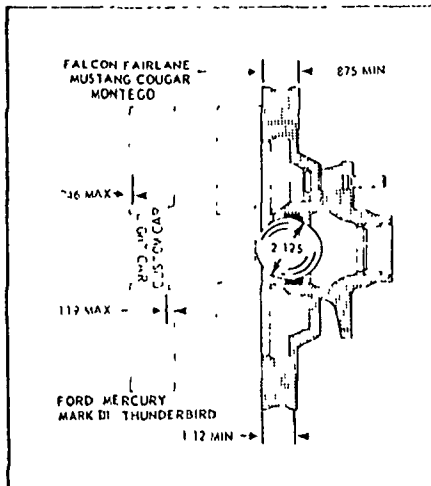

Figure 24- Floating Caliper Rotor Refinishing Limiting Dimensions
Controlled dimension notches are machined in the opposite edges of the gauge bar (Fig. 24) and identified Custom Car (Ford, Mercury, Continental Mark III and Thunderbird) and Light Car (Montego, Fairlane, Falcon, Mustang and Cougar).
3. Position gauge bar across the rotor inner braking surface and over the gauge ball (Fig. 24). Measure the distance between the gauge bar and ball. This equals the maximum amount of stock that can be removed. If the gauge bar touches the ball, no additional stock may be removed. If the gauge bar is below the top of the ball, replace the rotor.
4. Minimum rotor thickness dimensions are shown at both ends of the rotor in Figure 24. Rotors having a thickness less than these specifications must be replaced, regardless of the ball and gauge bar measurements.